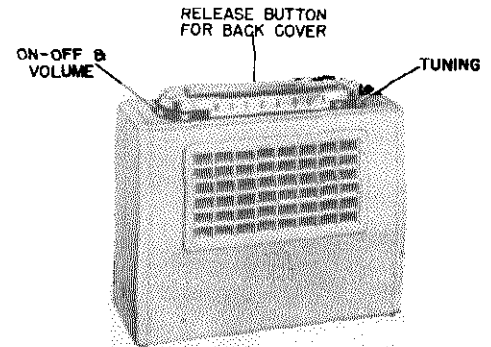

FIGURE 1. FRONT VIEW OF RECEIVER
**CONTROLS.** The volume control and power switch are combined and are operated with the VOLUME knob (see Figure 1). Select stations with the TUNING knob. The markings on the dial scale can be read in kilocycles by adding two zeros to the figures.